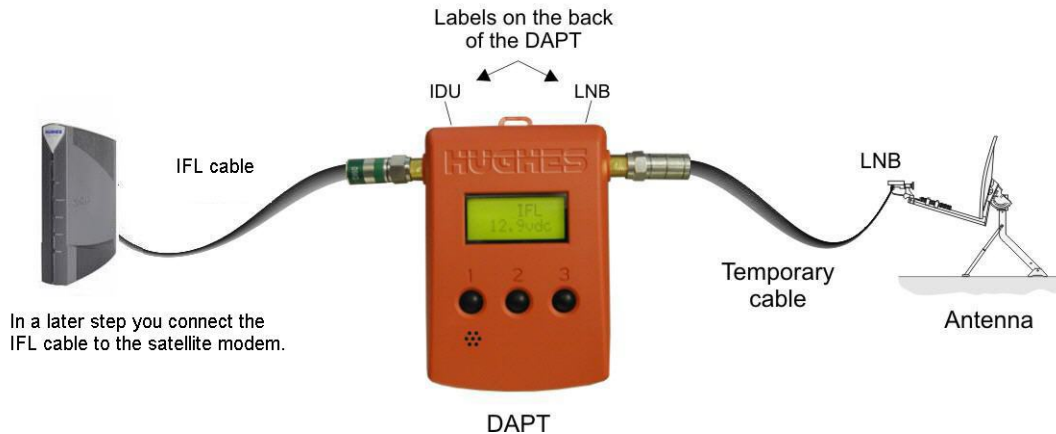

Figure 17: Connection of the DAPT2
2. Connect the IFL cable to the connector on the radio transmitter. Use a temporary cable to connect the DAPT2 to the LNB which is part of the radio assembly as shown in Figure 17. This is a temporary arrangement that is required for antenna pointing.